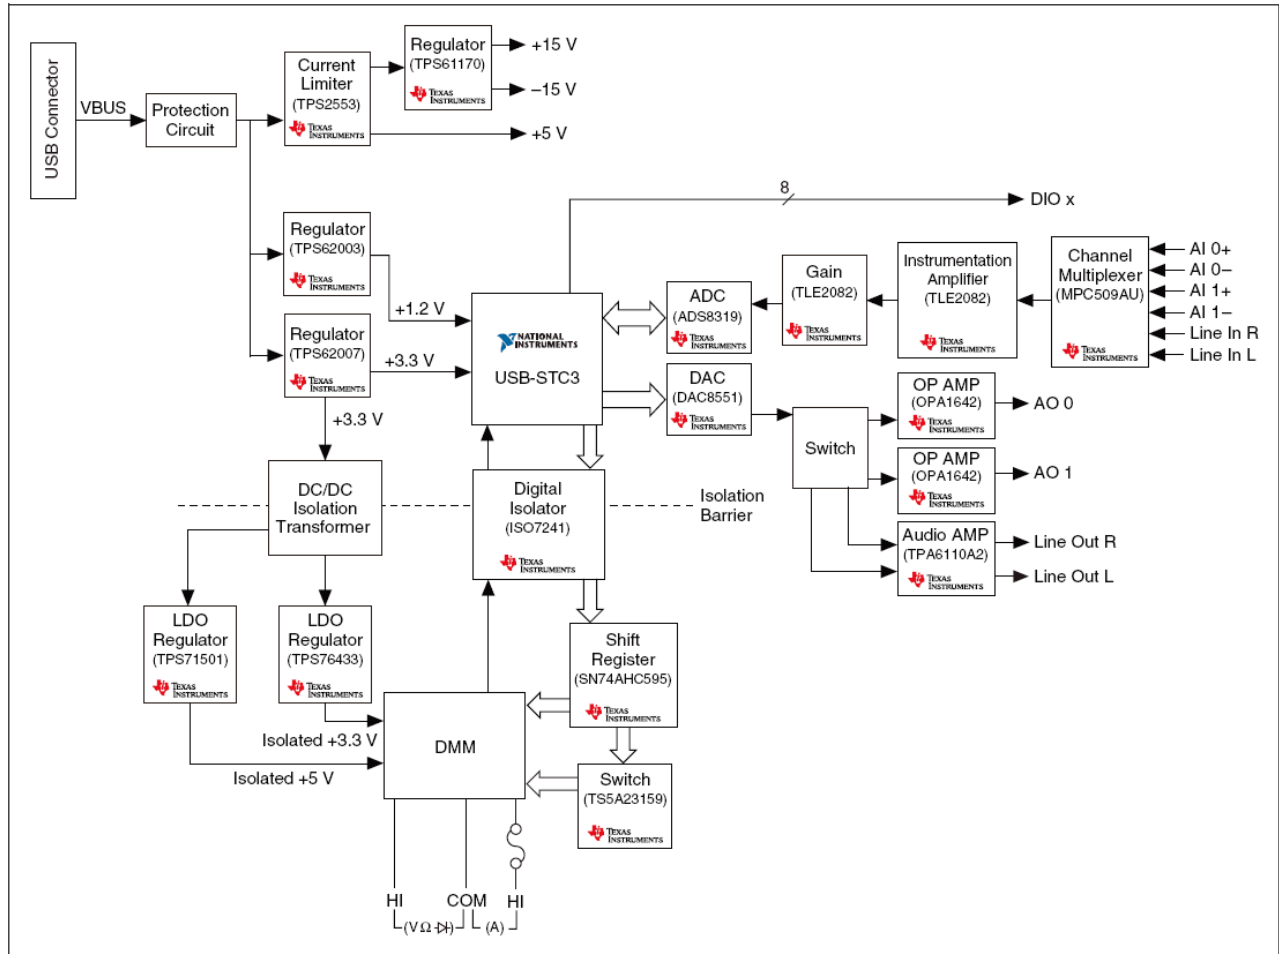

Fig. 2 NI myDAQ Hardware Block Diagram
The myDAQ provides analog input (AI), analog output (AO), digital input and output (DIO), audio input and output, DC power supplies, and digital multimeter (DMM) functions in a compact USB device. Integrated circuits supplied by Texas Instruments form the power and analog I/O subsystems of a myDAQ. Figure 2 depicts the arrangement and function of the NI myDAQ subsystems. Details of the hardware configuration could be found in *myDAQ User Guide and Specifications*.